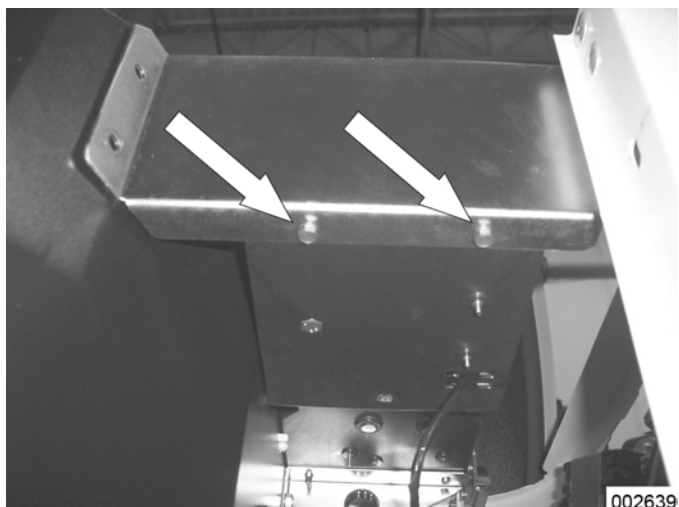

Figure 5-11.
7. **Remove Controller Mounting Box On Nexus Controllers:** See Figure 5-11. On units with Nexus controllers, use an 8 mm socket to remove the two screws from the rear of the controller mounting box. Use a 10 mm socket to remove the two bolts from under the front of the controller mounting box.
8. **Remove Engine Intake Baffle:** See Figure 5-11. Use a 10 mm socket to remove the two bolts from the engine intake baffle. Pull baffle out carefully, there are tabs holding the backside of the baffle to the divider panel.
9. **Loosen Side Panel:** See Figure 5-11. Using a 10 mm socket remove the two bolts from the base of the enclosure side panel.
10. **Unbolt Enclosure Side Panel Mounting Bracket:** See Figure 5-11. Using a 10 mm socket remove the two bolts from the enclosure side panel mounting bracket.